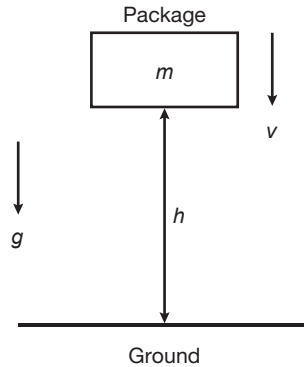

Figure 1.6–1 Sketch of the dropped-package problem.
5. *Draw a sketch and label any necessary variables.* Figure 1.6–1 is a sketch of the situation, showing the height h of the package, its mass m , its speed v , and the acceleration due to gravity g .